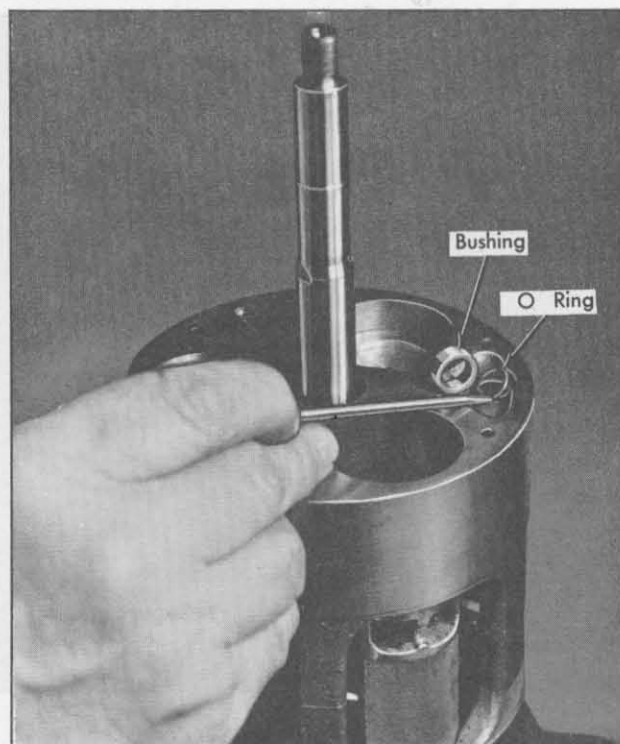

Fig. 1-91 Installing O-Ring on Crossover Tube
2. Install new O-ring and bushing on front end of discharge cross-over tube, Fig. 1-91. The O-ring and bushing are service parts only for internal mechanisms that have been disassembled in the field.